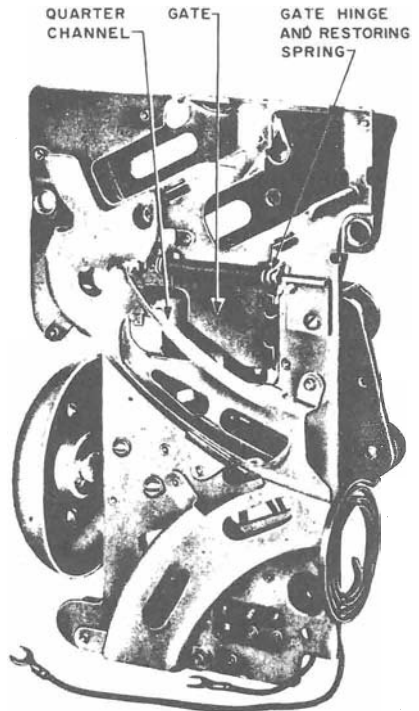

**Fig. 25—Prepay Coin Chute Equipped With P-339098 Cutover Clip For 5-Cent Service**
**5.11** The coin chute (Fig. 25) is made of stainless steel and provides nickel, dime, and quarter channels leading to the coin hopper of the mechanism unit. Nickels are routed to strike a solid gong